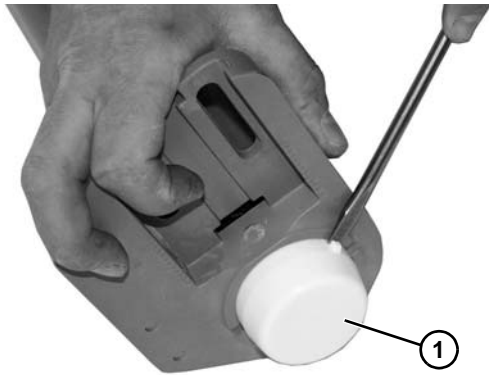

Figure 45
- Remove the bearing cover (Figure 45, item 1). Repeat on opposite side.